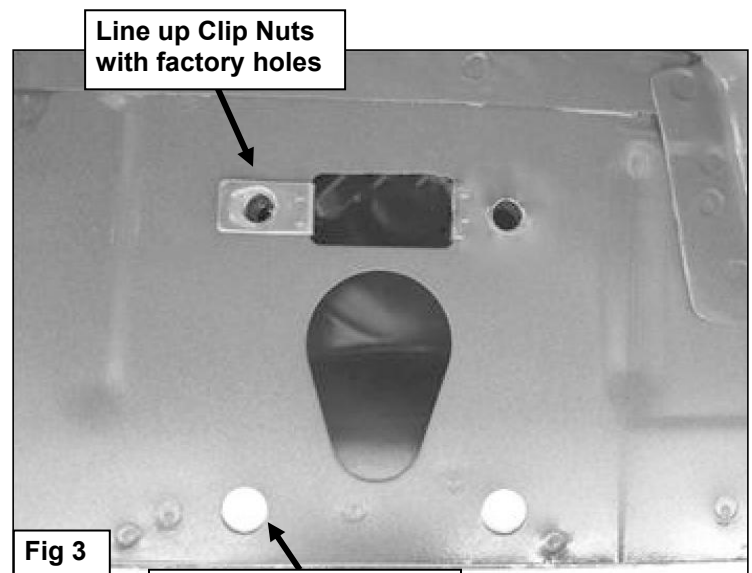

Fig 3
- Select (1) M10 Clip Nuts. Insert Clip Nuts one at a time into the rectangular opening and slide the threaded hole outward towards the round hole. Line up the threaded hole in the Clip with the round hole next to the rectangular opening. **NOTE:** Threaded nut must go towards the inside of the side panel, **(Figures 3)**.
- Partially attach (1) Mounting Bracket to the Clip Nuts with the included (1) M10 x 30mm Hex Bolts, (1) M10 Lock Washers and (1) M10 Flat Washers. **NOTE:** Cradles on the Mounting Brackets should face the front of the vehicle.
- Bolt the (1) bottom holes in the Mounting Bracket to the (1) holes in the pinch weld with the included (1) M10 x 30mm Hex Bolts, (2) M10 Flat Washers, (1) M10 Lock Washers and (1) M10 Hex Nuts. **NOTE:** Insert the Hex Bolt with Flat Washer through the pinch weld first then through the Bracket from the outside to inside. Do not tighten hardware at this time.